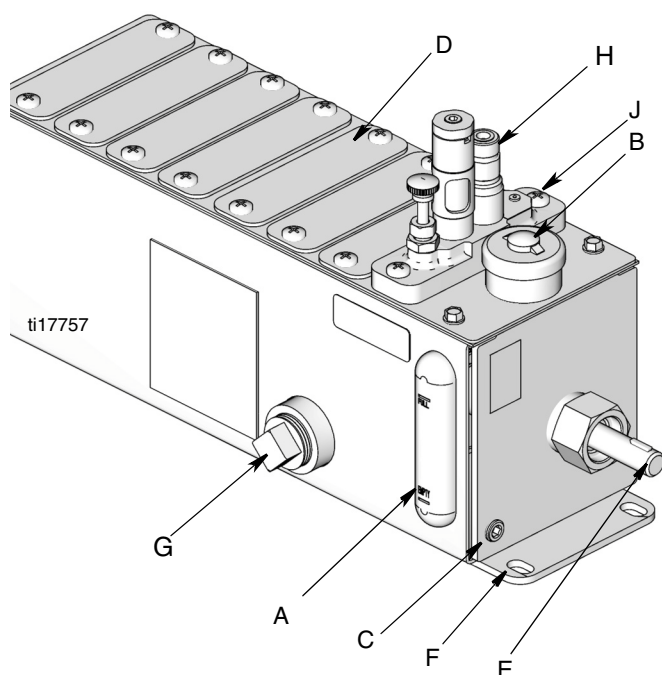

FIG. 1
Reference letters used in the following instructions, refer to FIG. 1.
- a. Drain reservoir by removing drain plug (C) (FIG. 1). Dispose of oil according to all applicable safety regulations.
- d. Replace pumping units. Torque mounting screws (J) to 110 in. lbs $\pm$ 10 in. lbs. (12.43 N.m $\pm$ 1.13 N.m).
- e. Apply thread sealant (user supplied) to drain plug (C) (FIG. 1) and replace. Torque to 35 in. lbs $\pm$ 5 in. lbs. (3.95 N.m $\pm$ 0.6 N.m).